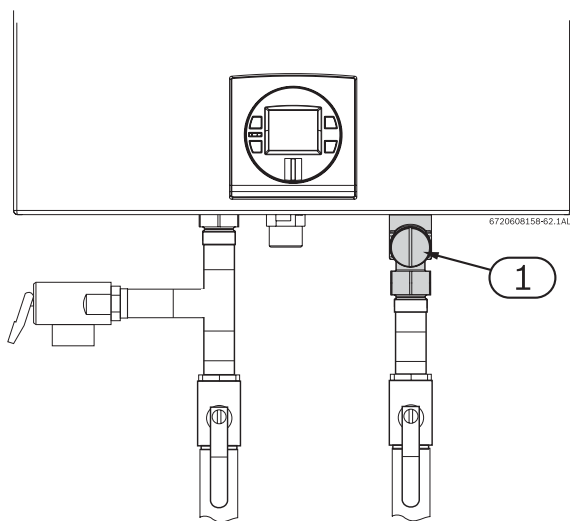

Fig. 29 Plumbing Connections (with shutoff valves) and Pressure Relief Valve
- ▶ Full port shutoff valves should be installed on both the cold water supply and hot water outlet lines to facilitate servicing the heater (see Fig. 29).
The location of the PRV must be readily accessible for servicing or replacement, and be mounted as close to the water heater as possible. See Fig. 29. To install the PRV, a suitable fitting connected to an extension on a "T" fitting can be sweated to the hot water line. Support all piping.